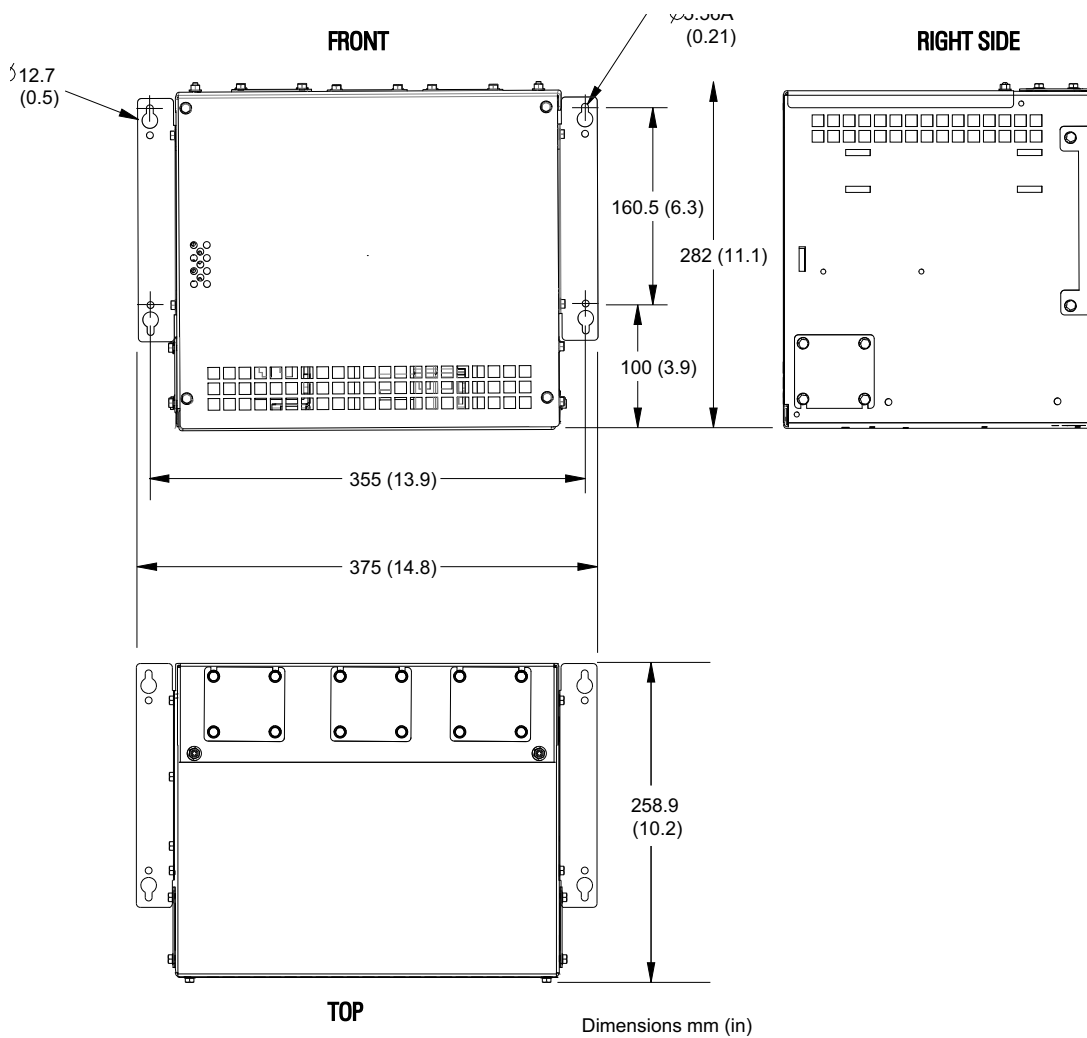

Figure 2. Controller Dimensions
1. Mark the location of the vertical bracket holes and install appropriate anchors in the wall if required (see Figure 2).
1. Mark the location of the bracket holes and install appropriate anchors in the mounting surface (see Figure 2).